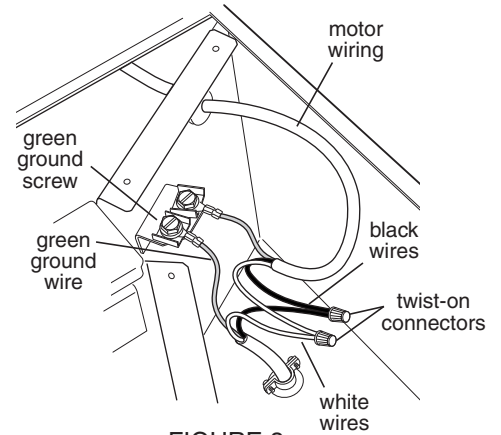

FIGURE 3
**3.** Make the wiring connections. (See FIGURE 3 and wiring diagram.)